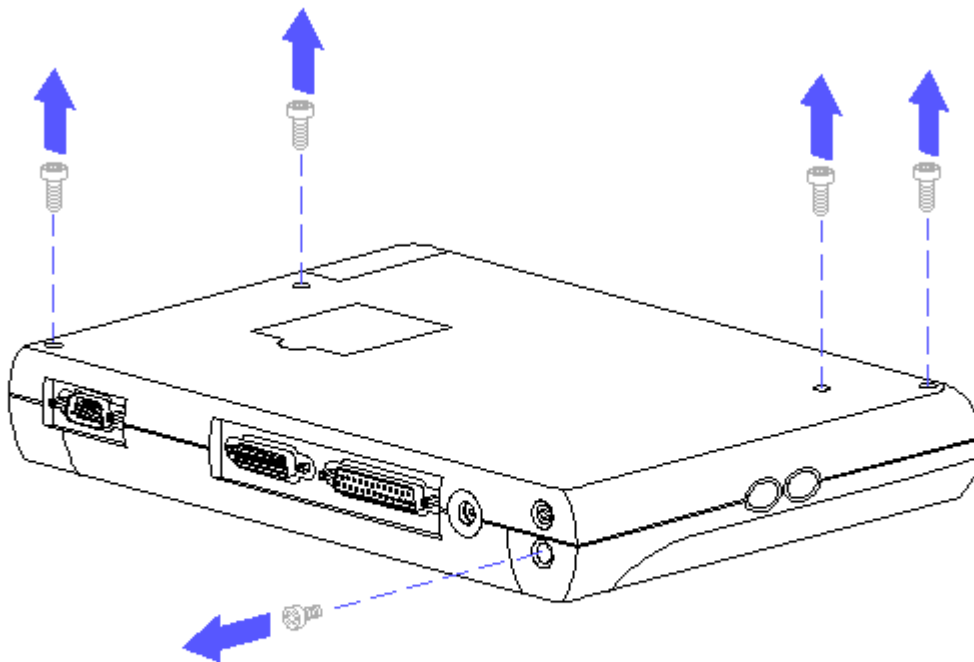

Figure 3-3. Removing the Screws from the Bottom and the Rear Panel
3. Remove the four screws from the bottom of the computer (Figure 3-3).
4. Remove the screw from the clutch on the display enclosure in the rear of the computer (Figure 3-3).